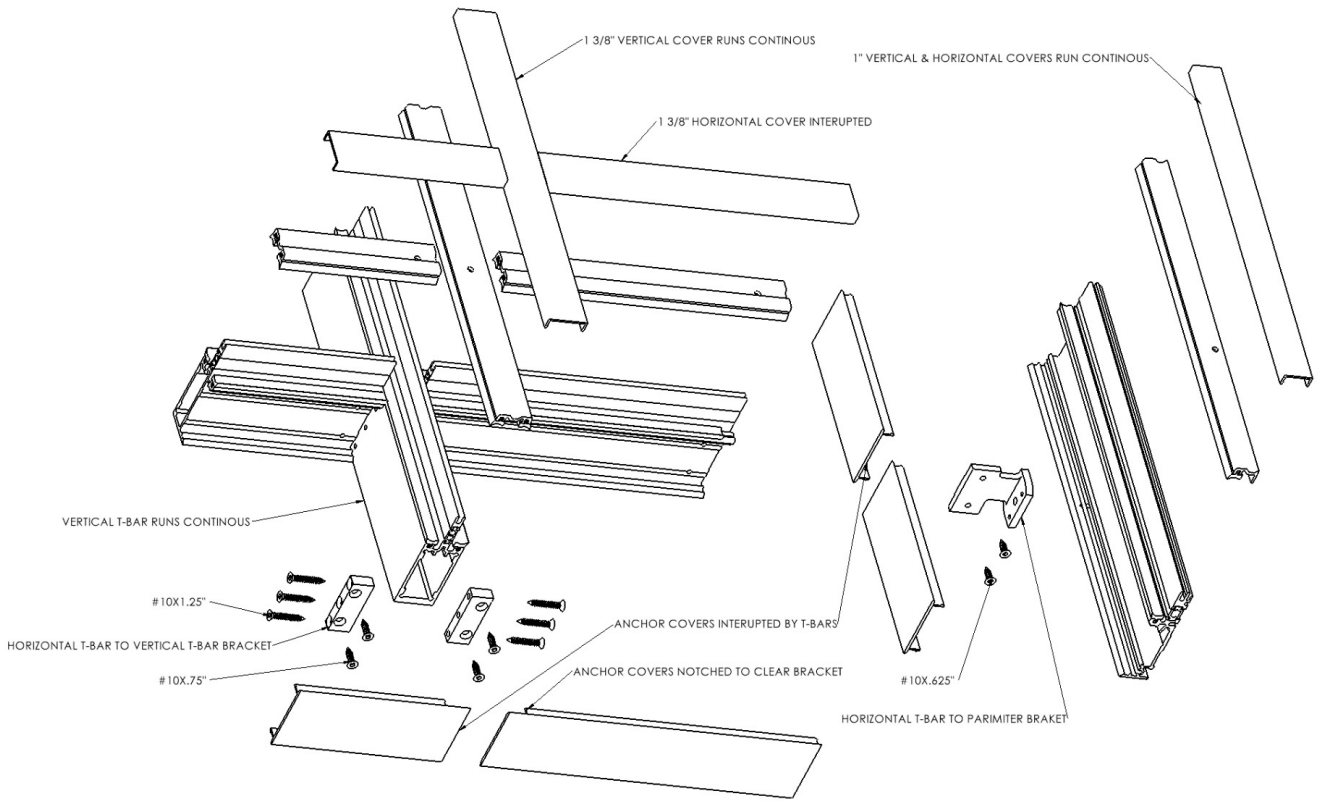

Figure 24
**See Figure 24 for a magnified view of a horizontal T-bar, vertical T-bar, and perimeter frame intersections.